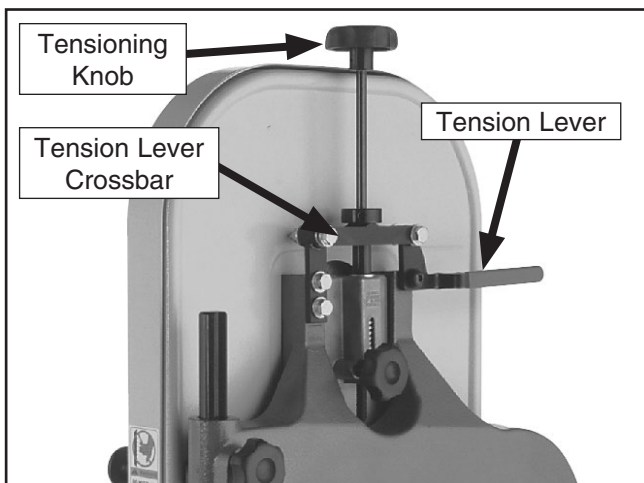

Figure 62. Blade tension controls/components.
2. Release tension lever shown in **Figure 62** and remove bandsaw blade.
5. Back the spacers away from the tension lever crossbar shown in **Figure 62**.
7. Pull up on the tensioning knob (see **Figure 62**) until the blade touches the wheel.